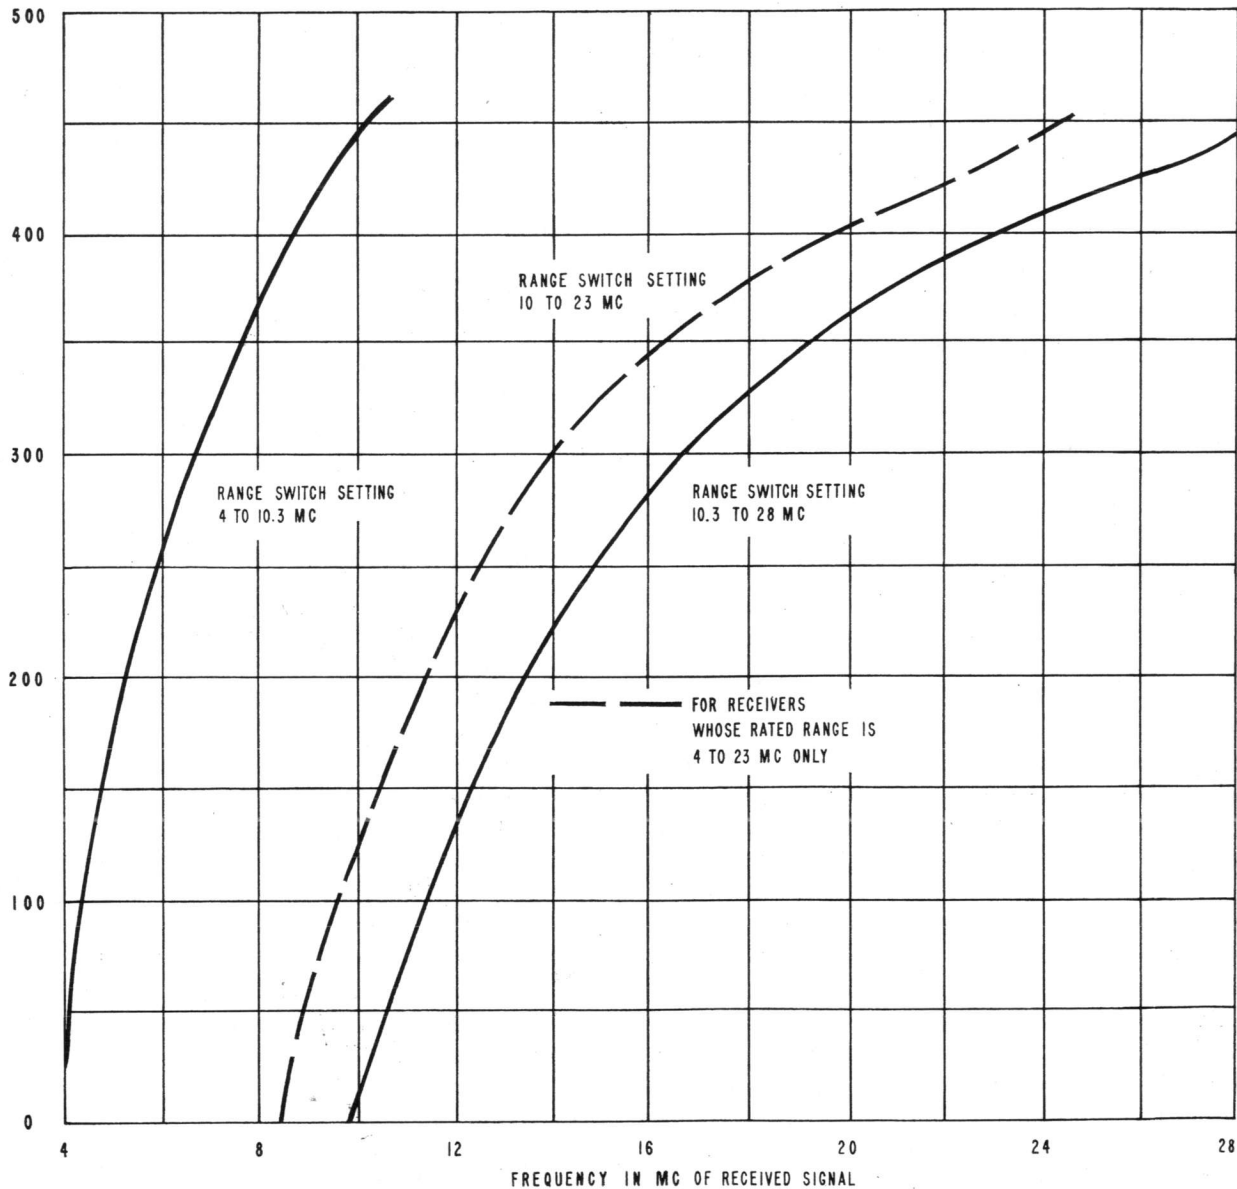

Figure 23. HF AMPLIFIER TUNING and 1ST BEAT OSCILLATOR, typical tuning charts.
- (1) Turn the VOLUME CONTROL switch to AUTO to prevent the receiver from being overloaded if a strong signal is tuned in.
- (2) Throw the MAIN POWER switch to ON.
- (3) Throw the panel 7 PWR switch to ON.
- (4) Throw the panel 6 PWR switch to ON.
- (5) Set the INPUT ATTENUATION DB knob to 0 (with the antenna connection).
- (6) Set the INPUT TUNING knob to mid-scale or its calibrated position.²
- (7) Set the RANGE switch to the desired range.²
- (8) Set the HF AMPLIFIER TUNING control as shown in figure 23.²
- (9) With the 1ST BEAT OSCILLATOR switch at VARIABLE, set the AFC REVERSE switch to position 1 for signal frequencies below 10 mc, and to position 2 for signal frequencies of 10 mc and above.²